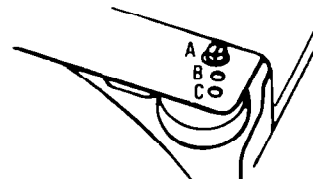

FIGURE 11
10. To adjust the height, remove screw from position "A" in Figure 11. Move the rear wheel and screw to position "B" or "C":